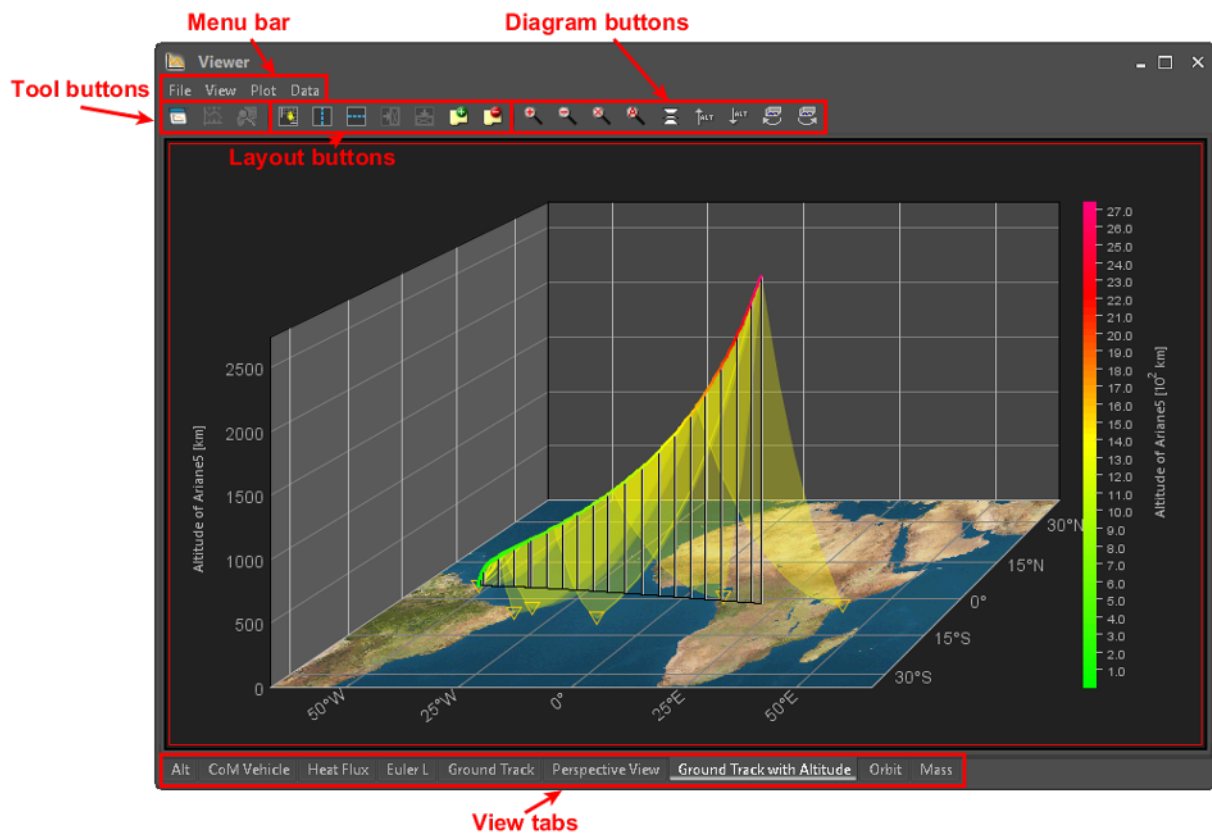

Fig. 2.3: The Viewer window
Tip: If a *Curve Plots* diagram is currently displayed, it is necessary to clear the plot to reactivate the *Grids* and *Review Iterations* toolbar buttons (Fig. 2.3), .
- *New/Remove View* adds/removes a new view tab in the *Viewer* window. To be distinguishable, all the views are serially numbered. To switch between the views, select the desired view tab in the register (lower part of the *Viewer* window, see Fig. 2.3).